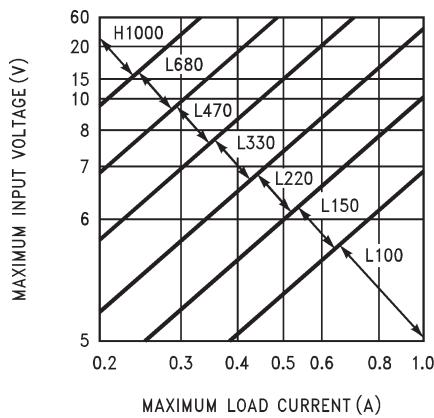
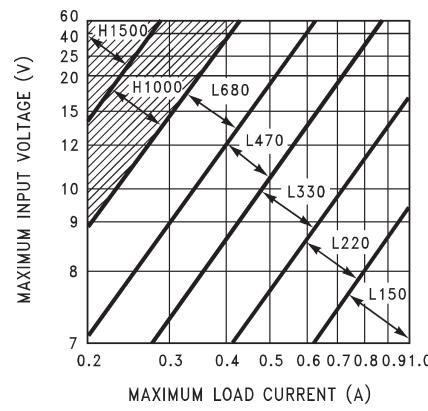
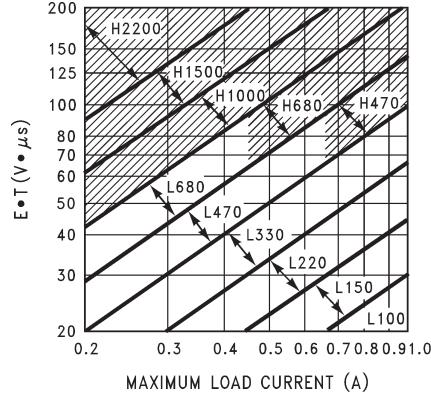

Figure 12. TL2575-33
Figure 13. TL2575-50
Figure 14. TL2575-ADJ
1. Inductor Selection (L1)  A. From <a href="#">Figure 12</a> through <a href="#">Figure 14</a> , select the appropriate inductor code based on the intersection of $V_{IN(\text{Max})}$ and $I_{LOAD(\text{Max})}$ .  B. From <a href="#">Table 2</a> , choose the appropriate inductor based on the inductor code. Parts from three well-known inductor manufacturers are given. The inductor chosen should be rated for operation at 52-kHz and have a current rating of at least $1.15 \times I_{LOAD(\text{Max})}$ to allow for the ripple current. The actual peak current in L1 (in normal operation) can be calculated as follows: $I_{L1(\text{pk})} = I_{LOAD(\text{Max})} + (V_{IN} - V_{OUT}) \times t_{on}/2L1$ Where $t_{on} = V_{OUT}/V_{IN} \times (1/f_{osc})$	1. Inductor Selection (L1)  A. From <a href="#">Figure 13</a> (TL2575-05), the intersection of 20-V line and 1-A line gives an inductor code of L330.  B. $L330 \rightarrow L1 = 330\text{ }\mu\text{H}$ Choose from: 34042 (Schott) PE-52627 (Pulse Engineering) RL1952 (Renco)